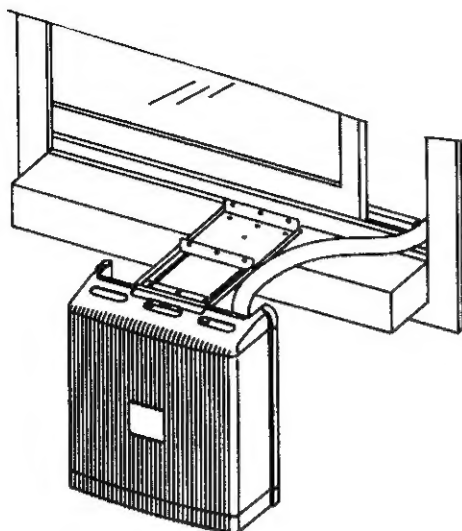
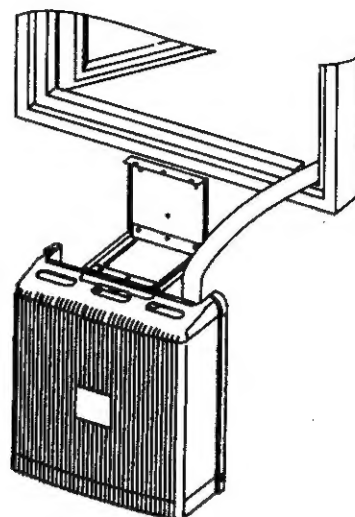
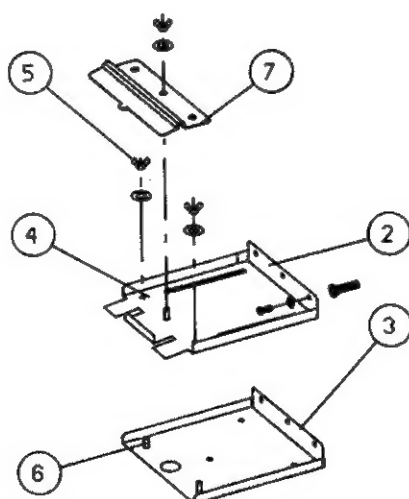
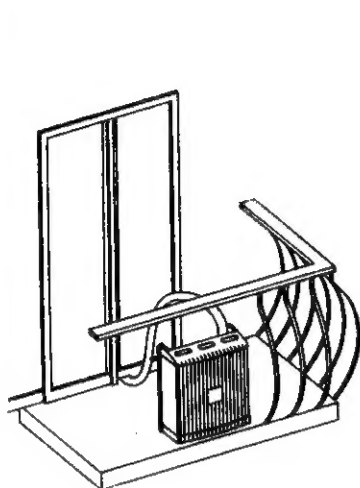

Figure 5. Suspending outdoor unit from window sill
Figure 6. Suspending outdoor unit from wall
Figure 7. Outdoor unit supporting kit
Figure 8
A standard kit (Figure 7), supplied with the air conditioner for supporting the outdoor unit, makes it possible to mount it either from a window sill (Figure 5) or on the wall (Figure 6).
1. Slip the unit handle over the sliding bracket (2) (Figure 7) of the unit support (see Figures 5 and 6).
2. For window mounting, refer to Figure 5. Place the fixed support (3) (Figure 7) on the window frame, drill three holes in the window frame and mount the support securely with three screws.
3. Place the sliding bracket (2) so that its slots (4) fit into the matching studs (6) in the fixed support (3). Secure sliding bracket with wing nuts (5) (Figure 7). Suspend the outdoor unit on the sliding bracket.
4. Slide the unit to the most suitable place (minimum 100 mm from wall) and tighten the two wing nuts (5) (Figure 7).
5. Place the securing bracket (7) (Figure 7) in place and tighten it. Verify that the unit is well supported, stable and secured.
6. For wall mounting, refer to Figure 6. Place fixed bracket (3) against wall, drill three holes in the wall and fasten with three screws; verify that the support is level.
7. Engage the sliding bracket with the two holes over the two studs and tighten the wing nuts (5). Install the securing bracket (7). Verify that the unit is well supported and stable.
8. Prepare a slot in the lower part of door or window frame for the interconnecting hose location (see Figures 8, 9, 10, 11).